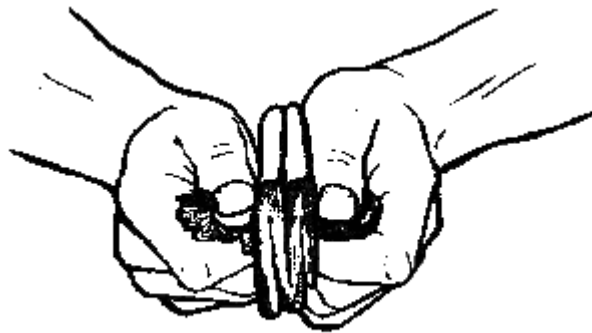

Figure 2-28. Grasping tails of dressing with both hands.
a. Use the casualty's field dressing; remove it from the wrapper and grasp the tails of the dressing with both hands (Figure 2-28).